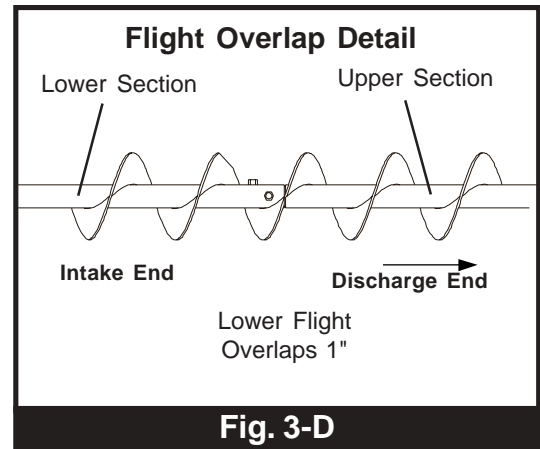

Fig. 3-D
3. Butt the head and middle tube housing sections together. Position the connecting band so it is positioned equally over both the tubes. Secure the connecting band with six (6) 3/8" x 1-1/2" (grade 5) hex bolts and nylon lock nuts. (See Fig. 3-E.)